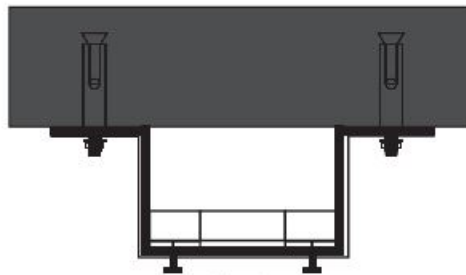

Fig.1
- Mark the location for the ceiling fan first, then drill 4 holes in the ceiling to aid in securing the ceiling bracket with 4 expansion screws provides, and secure the mounting bracket to the building structure with the 4 expansion screws provide, tighten the screws. (Fig.1)